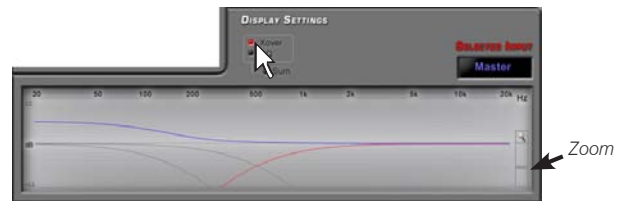

Fig.1
1. a red line for the electrical response under crossover filtering action (Xover) (Fig.1) by clicking with the mouse on the **Xover** box;